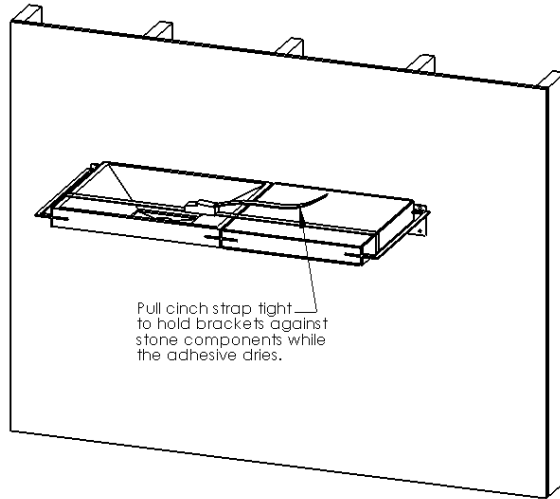

Figure 7.
18. Using a cinch strap for group of components, run it completely around and tighten to pull all brackets tightly against the stone. *See Figure 7.*